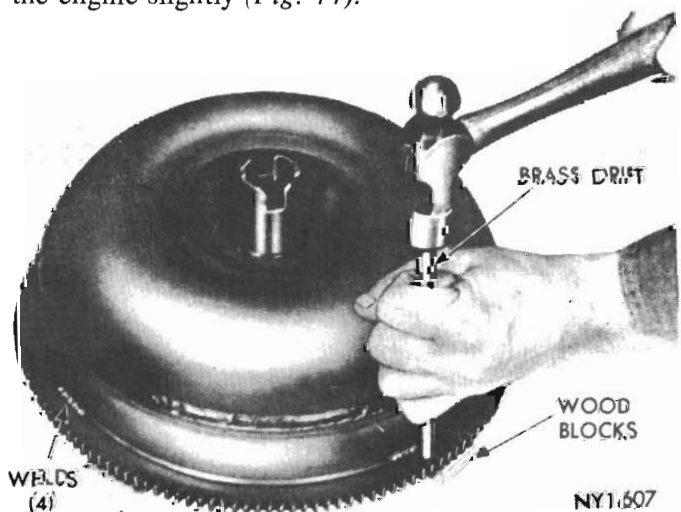

Fig. 45 - Removing starter ring gear
(1) Cut through weld material at rear side of ring gear with a hack saw or grinding wheel (Fig. 45). Be careful not to cut or grind into front cover stamping.
(2) Scribe a heavy line on front cover next to front face of ring gear to aid in locating the new gear.
(3) Support converter with the four lug faces resting on blocks of wood. *The converter must not*
*rest on the front cover hub during this operation.* Using a blunt chisel or drift and hammer, tap downward on ring gear near welded areas to break any remaining weld material (Fig. 45). Tap around ring gear until it comes off the converter.
(4) Smooth off weld areas on the cover with a file.